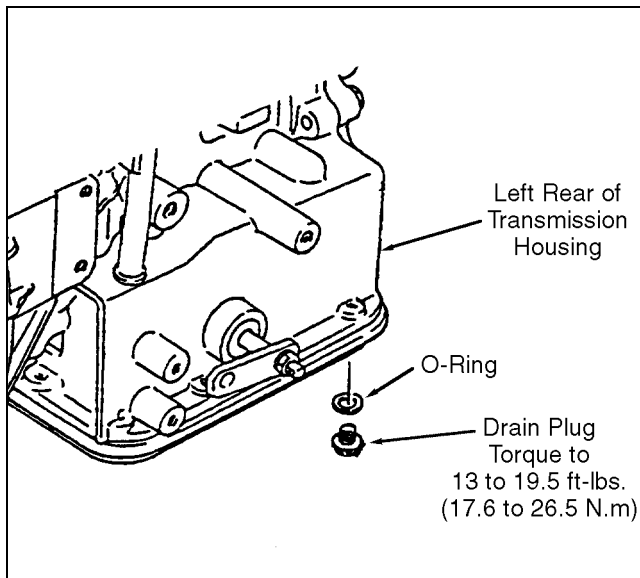

Figure 4J-1. Transmission Drain Plug Location
5. Remove the transmission drain plug located at the bottom left, rear corner of the transmission oil pan (see Figure 4J-1) and drain automatic transmission fluid (ATF) into an environmentally approved container. Replace O-ring and install the drain plug and torque it to 13 to 19.5 ft-lbs. (17.6 to 26.5 N.m).